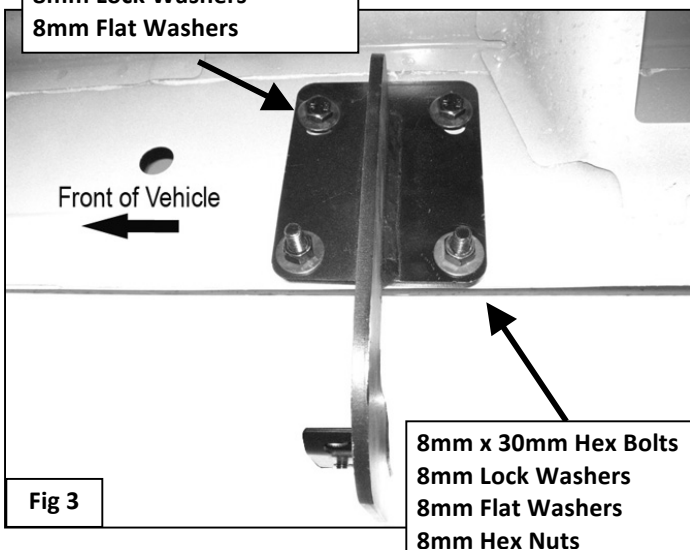

Fig 3
- Partially attach passenger side Mounting Brackets to the previously installed Clip Nuts using the included (1 or 2) 8mm x 30mm Hex Bolts, (1 or 2) 8mm Lock Washers, and (1 or 2) 8mm Flat Washers, (**Figure 3**). **NOTE:** Cradles on the Mounting Brackets should face the front of the vehicle.
- Attach the (2) bottom holes in the Mounting Bracket to the (2) holes in the pinch weld using the included (2) 8mm x 30mm Hex Bolts, (2) 8mm Lock Washers, (4) 8mm Flat Washers and (2) 8mm Hex Nuts, (**Figure 3**). Do not tighten hardware at this time.